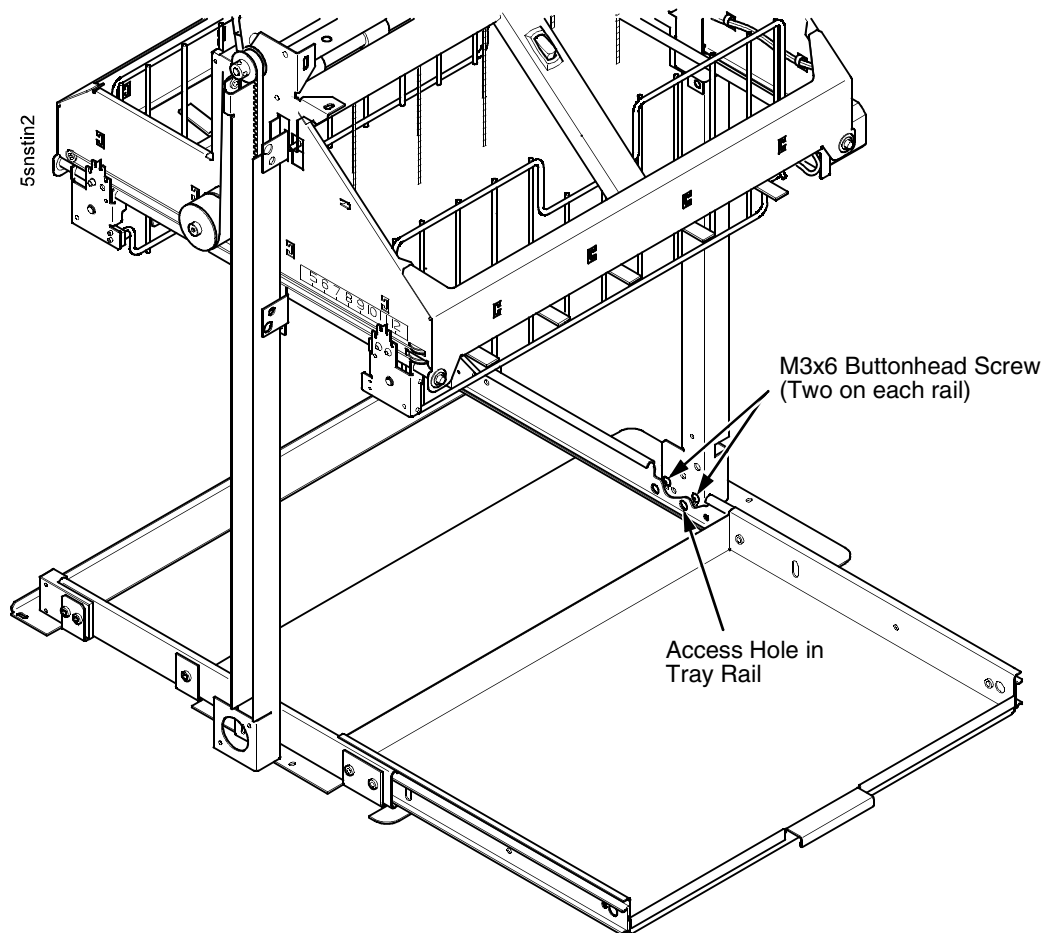

Figure 76. The Lower Screws in the Vertical Rails
9. Pull the paper tray out until the holes in the rails permit access to the M3 buttonhead screws. (Figure 76.)
10. Loosen one turn (do not remove) the M3x6 screws securing the vertical rails to the stacker base. Each rail is secured by two screws. (Figure 76.)